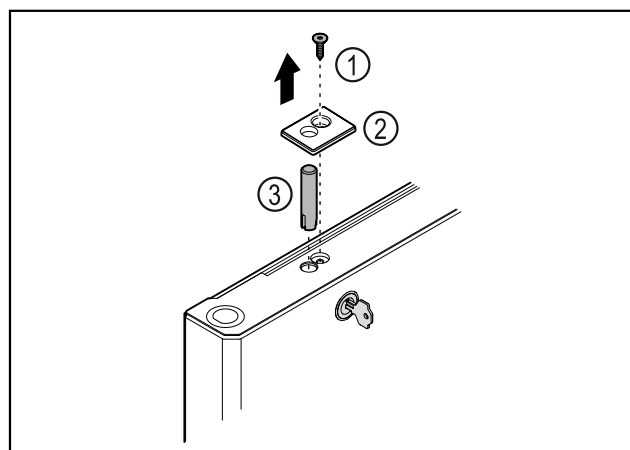

Fig. 32
- Remove the screw *Fig. 32 (1)*.
- Unlatch the cover *Fig. 32 (2)* with a small screwdriver and remove it.
- Pull out the lock bolt *Fig. 32 (3)*.